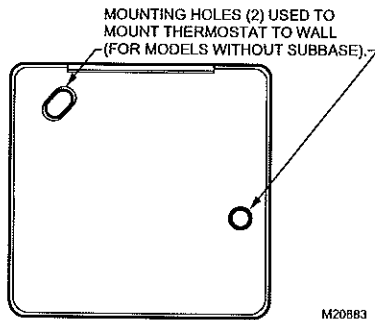

Fig. 2. Mounting hole locations for models without subbase.
6. Fasten the thermostat to the wall with screws through the mounting holes on the upper left and right sides of the device. See Fig. 2.